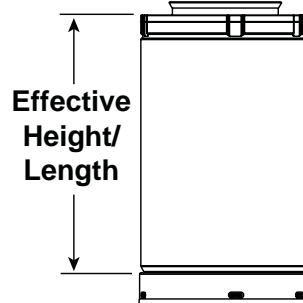

Figure 5.2 SLP Pipe Effective Length
- Pipe measurements are shown using the effective length of pipe (see Figure 5.2).